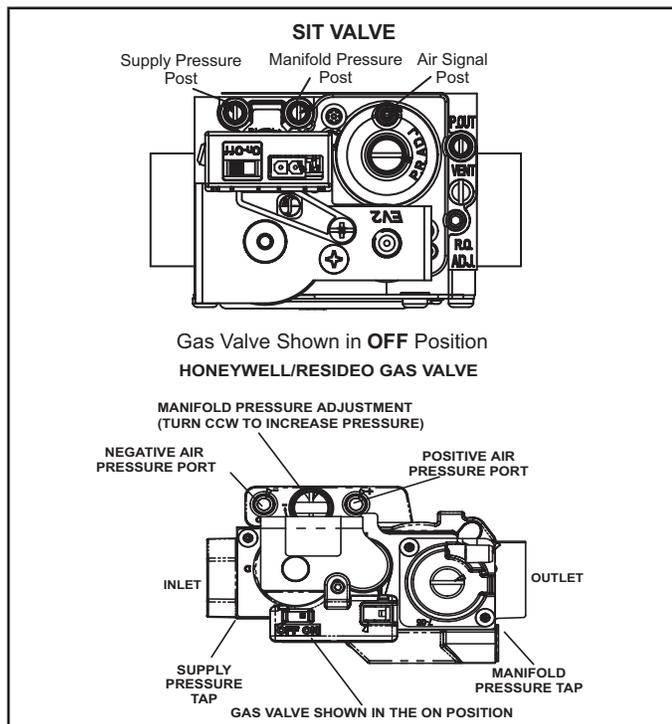

FIGURE 18
The valve (Figure 18) is internally redundant to assure safety shut-off. If the gas valve must be replaced, the same type valve must be used.
- 6 - Turn switch on gas valve to OFF. Do not force. See Figure 18.
- 8 - Move switch on gas valve to ON. Do not force. See Figure 18.
A port on the inlet side of the gas valve provides access to the supply pressure tap. See Figure 18. Loosen the screw and connect a manometer to measure supply pressure. *The minimum supply line pressure is 4.5" - 10.5"w.c. For natural and 11.0 - 13.0" wc for LP/Propane. Tighten after measurements have been taken.*
- 2 - Remove the threaded plug from the outlet side of the gas valve and install a field-provided barbed fitting. Connect measuring device positive "+" to barbed fitting to measure manifold pressure. See Figure 18 Honeywell gas valve for manifold location.